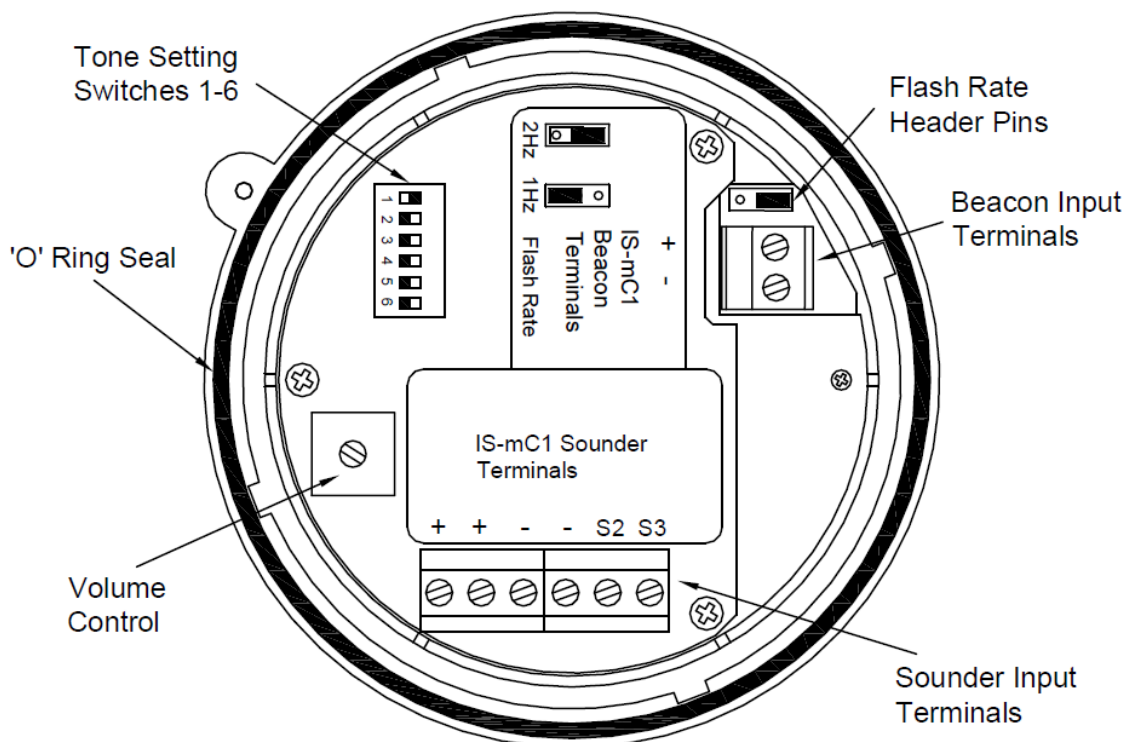

Fig 2: Location of field terminals and controls.
Power is supplied to the sounder section via the sounder input terminals + and – on the sounder PCB (see Fig 2) and the terminals have the following input safety parameters:
Power is supplied to the beacon section via the beacon input terminals + and – on the beacon PCB (see Fig 2) and the terminals have the following input safety parameters:
- Fit the required number of 20mm cable glands or conduit entries into the base and connect the field wiring to the appropriate sounder terminals as shown in section 6 and fig 2 of this manual. The power supply terminals + and – are duplicated so that sounders may be connected in parallel, or an end of line monitoring resistor may be fitted.
- Select the required sounder output tone by positioning the six switches as shown in Table 1 and Fig 2.
- Check that the 'O' ring seal is correctly located on the sounder/beacon section (see Fig. 2) and insert the sounder/beacon section into the base. Push it fully home and turn it clockwise to align the moldings before tightening the security screw.